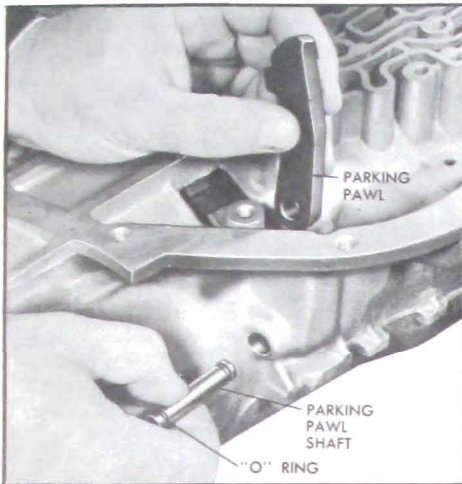

Figure 5-532
j. Remove parking pawl shaft, "O" ring seal and parking pawl. See Figure 5-532.